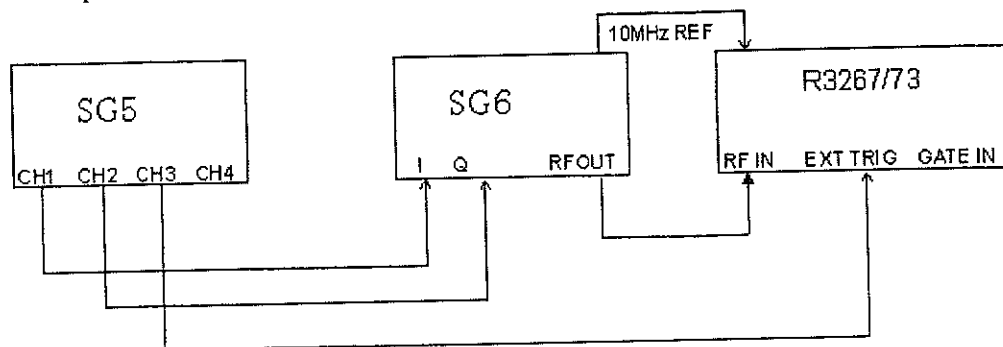

Figure 3-22 Setup of BTS Measurement Test
1. Connect equipment is shown as Figure 3-22.